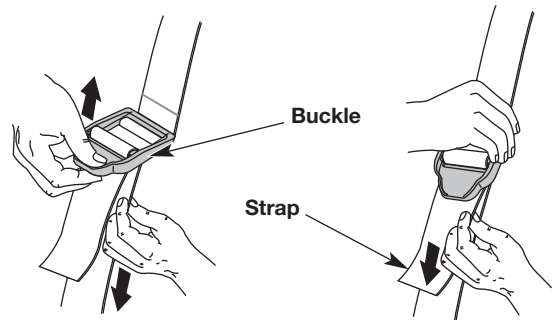

Fig. 6
5. Adjust the shoulder strap to fit the operator (Fig. 6). Pull the buckle up to loosen the shoulder strap. Pull the strap down to tighten the shoulder strap.